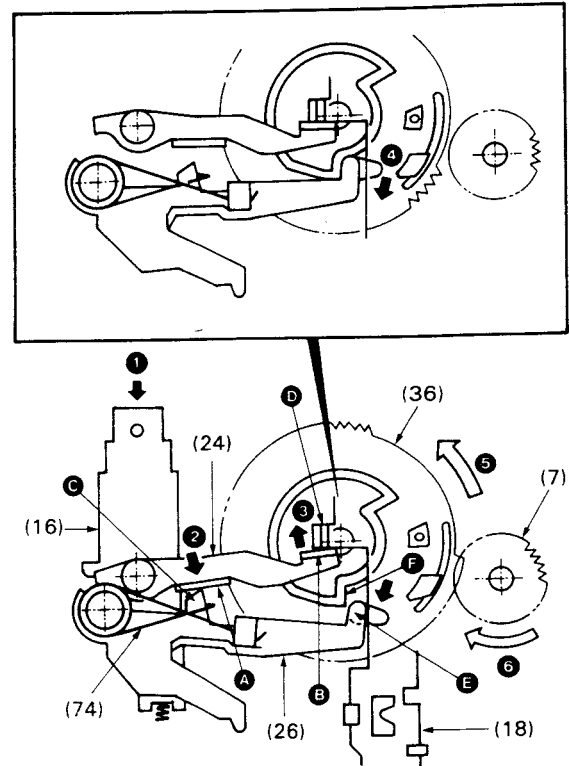
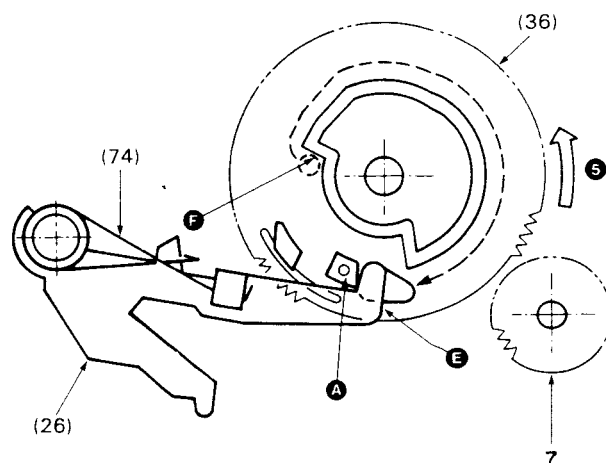
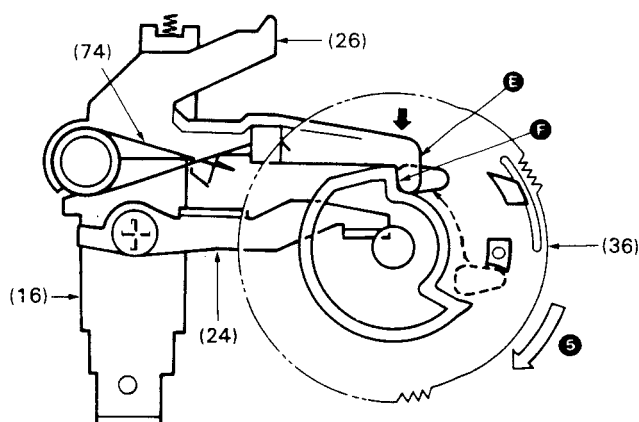

Fig. 6 Play (Unlock ASSIST GEAR)
Fig. 9 Play (Hold play mode)
Fig. 10 Play (Release play mode)
5. Play Operation (Fig. 6)
- 5-1. Press the PLAY LEVER (16) (→ ①).
- 5-2. The TRIGGER ARM (I) (24) which is fixed on the PLAY LEVER (16) with the screw is also moved in the direction of → ② .
- 5-3. The notch (A) of the TRIGGER ARM (I) (24) comes in contact with the TRIGGER ARM (II) (26). (→ ② .) At the same time, the notch (B) of the TRIGGER ARM (I) (24) comes in touch with the notch (D) of the FF and REW LEVERS (18),(17). (→ ③ .)
- 5-4. The TRIGGER ARM (I) (24) swings in the direction of → ② using (B), (D) as supporting points and (A), (C) as application points.
- 5-5. The TRIGGER ARM (II) (26) is swung in the direction of → ④ by notch (A) of the TRIGGER ARM (I) (24).
- 5-6. The edge (E) of the TRIGGER ARM (II) (26) is unlocked from the section (F) of the ASSIST GEAR (36).
- 5-14. The ASSIST GEAR (36) still rotates even after the HEAD BASE (89) stops and stops when the boss (E) of the TRIGGER ARM (II) (26) comes in contact with the stopper (A) of the ASSIST GEAR (36). (See Fig. 9.)
- 5-15. During the PLAY LEVER (16) is locked, the TRIGGER ARM (II) (26) is held at the position shown in the figure (Fig. 9) by the TRIGGER ARM (I) (24). (See Fig. 6.)
- 5-16. When the PLAY LEVER (16) is released, the TRIGGER ARM (I) (24) becomes free and the TRIGGER ARM (II) (26) is swung by the SPRING (74), and the ASSIST GEAR (36) is also unlocked. (See Fig. 9, Fig. 10.)
- 5-17. The ASSIST GEAR (36) is rotated in the direction of ➡ 5 by the pressure of the SHIFT ARM (29), and stops when the boss (E) at the edge of the TRIGGER ARM (II) (26) comes in contact with the (F) portion of the cam. (See Fig. 10.)